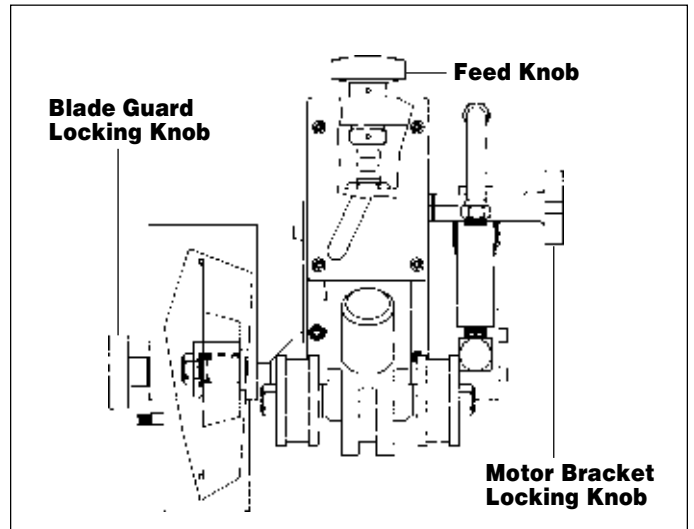

FIG. 2 (Motor Unit)
1. Loosen motor bracket locking knob. (Fig.2)
2. Retract motor bracket to upper most position, by turning feed knob counter clockwise. (Fig. 2.)
2. Turn cutter feed knob clockwise ( Fig. 2), to lower motor and cutter close to, but not touching the pipe. Motor bracket locking knob should be tight, yet allow bracket to slide.
1. Tighten motor bracket locking knob. (Fig. 2) (Photo #3)
3. Knowing the thickness of pipe to be cut, turn the feed knob clockwise, (Fig. 2) until the pointer indicates the desired depth of cutter. Allow at least  $\frac{1}{4}$ " of blade beyond full wall penetration.
4. Tighten blade guard locking knob approximately  $\frac{1}{8}$ " from pipe. (Fig. 2)